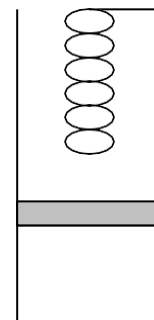

Figure 33. problem 2.34
- 2.22 A cylinder-piston arrangement contains water at 105°C, 85% quality with a volume of 1L. the system is heated, causing the piston to rise and encounter a linear spring, as shown in Figure 33. at this point the volume is 1.5L, the piston diameter is 150mm, and the spring constant is 100N/mm. The heating continues, so the piston compresses the spring. What is the temperature when the pressure reaches 200kPa?